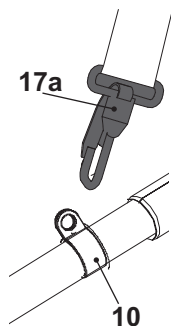

Fig. 6
2. Adjust the length of the harness (17) so that the securing clip (17a) is approximately 15 cm below your waist.
3. Attach the securing clip (17a) to the loop (10) (Fig. 6).